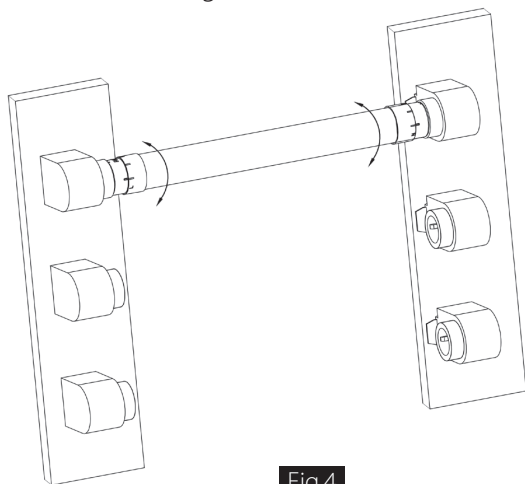

Fig.4
12. Rotate the tubes from 0° to 90° to get the best illumination. (Fig.4)